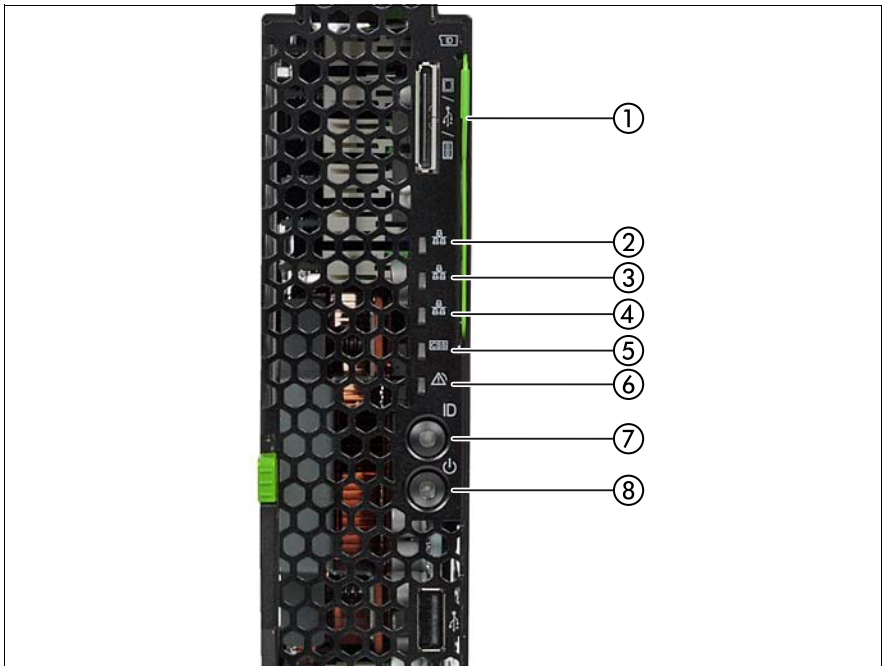

Figure 8: Control and display elements
You can pull out the ID card (see figure 8 on page 47) as far as it will go and push it back in again.
The system unit is switched on and the power-on indicator (item 8 in figure 8 on page 47) is flashing green.
- To switch the server blade on, press the On/Off button on the server blade (item 8 in figure 8 on page 47).
To switch the server blade off, hold down the On/Off button on the server blade (item 8 in figure 8 on page 47) for 4 seconds.